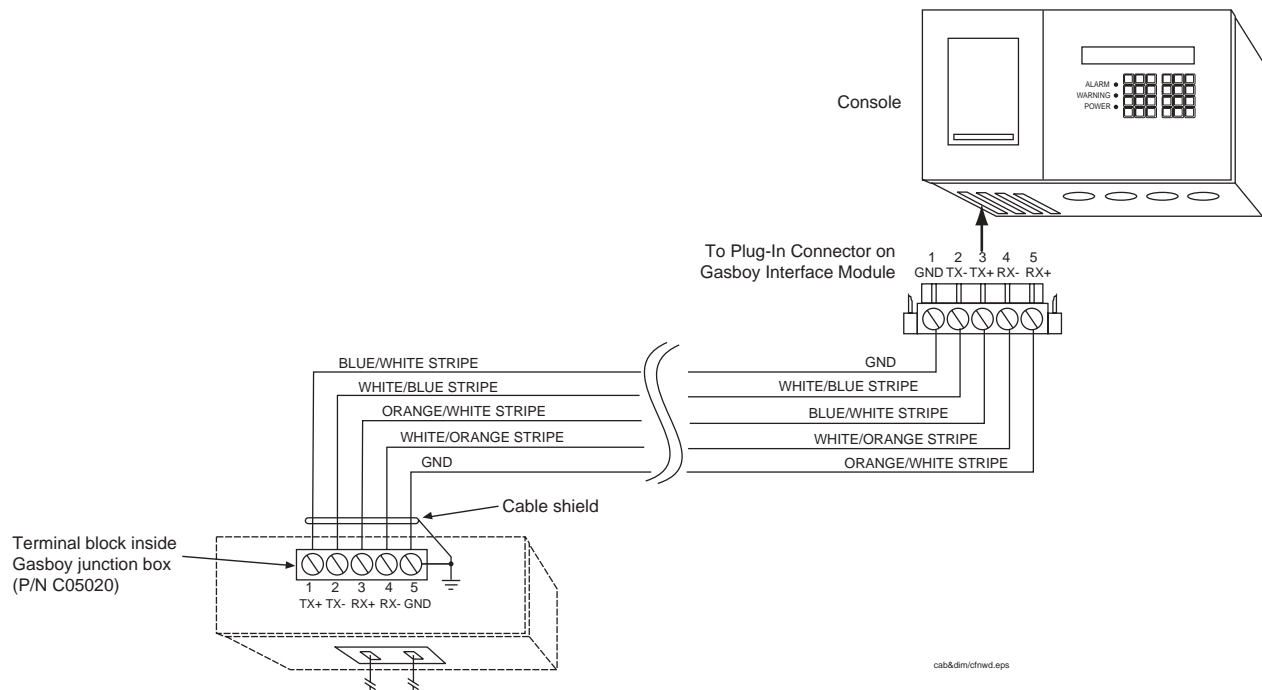

Figure 7. Junction box to console wiring diagram
- Refer to Figure 7 and locate the terminal block inside the Gasboy junction box (P/N C05020).
- Connect the cable leads to the Gasboy terminal block as shown in Figure 7. If the cable must be shortened, remove any excess at the console end of the cable (the connector can be easily disassembled and reassembled). Junction box screw terminal positions could vary, so refer to manufacturer's installation manual. When wiring to the junction box, keep wires physically separated by spacing them away from any other wiring or conduits.
2. Refer to Figure 7 and locate the terminal block inside the Gasboy junction box (P/N C05020).
3. Connect the cable leads to the Gasboy terminal block as shown in Figure 7. If the cable must be shortened, remove any excess at the console end of the cable (the connector can be easily disassembled and reassembled). Junction box screw terminal positions could vary, so refer to manufacturer's installation manual. When wiring to the junction box, keep wires physically separated by spacing them away from any other wiring or conduits.